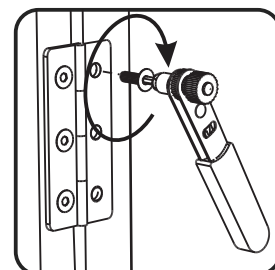

Figure 7
Attach Doors (K) and (L) to unit with Flat Short Bolts (7) by using 3mm. Key Head. (See Figure 7)